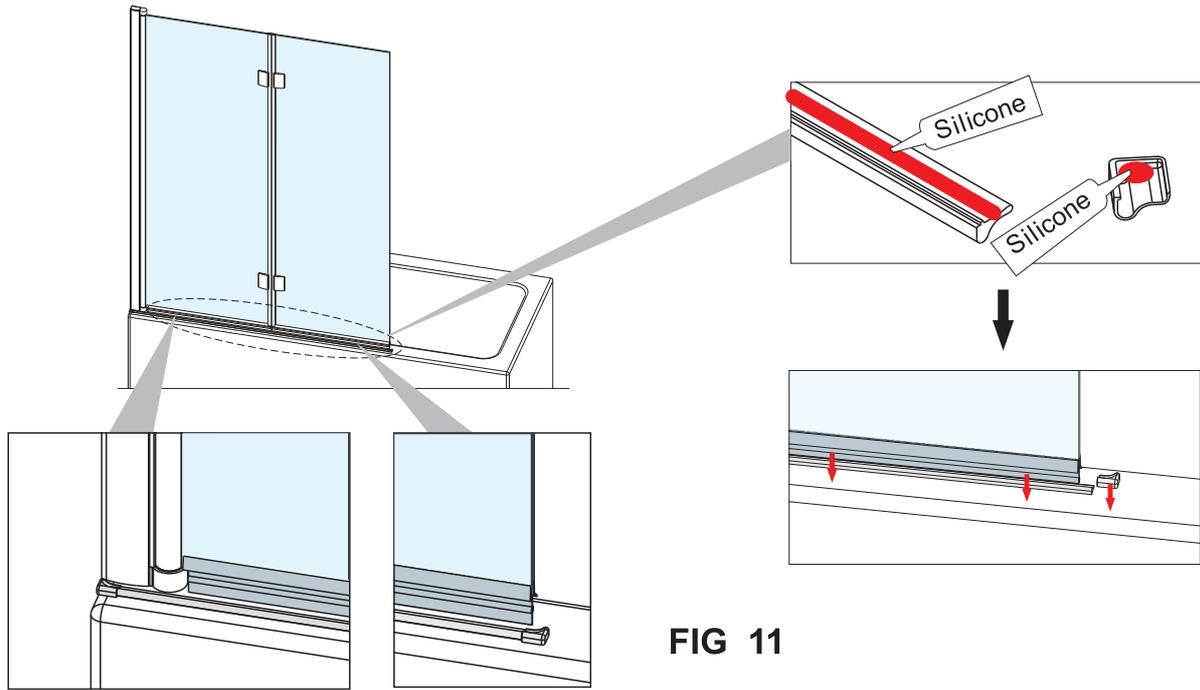

FIG 11
11. Fix the luna rail on top of bath. Put a dab of silicone to bottom of each luna rail end cap (note left & right) and a thin bead of silicone to the bottom of the luna rail. Fit cap to end of fixed panel and carefully place luna rail into end cap. Ensure the luna rail is parallel to the bath edge. **Fig 11.**